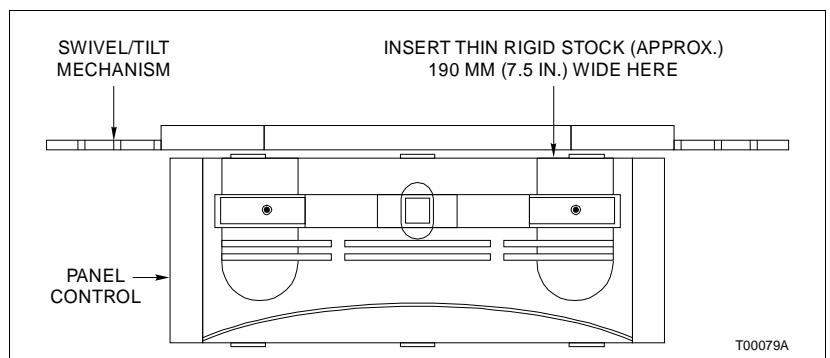

Figure PR68-1. Panel Control Replacement
1. Insert the thin rigid piece of stock into the space above the panel control (Fig. PR68-1).